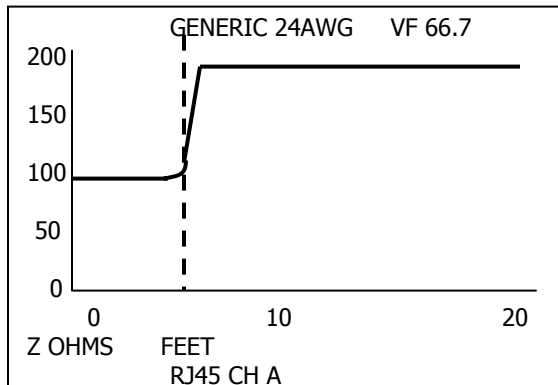

Figure 1
- Step 4 – Press the ENTER key. This will return the TDR to the Measurement screen with Cursor 1 active. Cursor 1 is the only cursor required and cursor 2 is disabled. Also note that no cursor distance data is presented. This helps avoid pre-judging where the electrical end of the cable actually is. See Figure 1 for sample display.